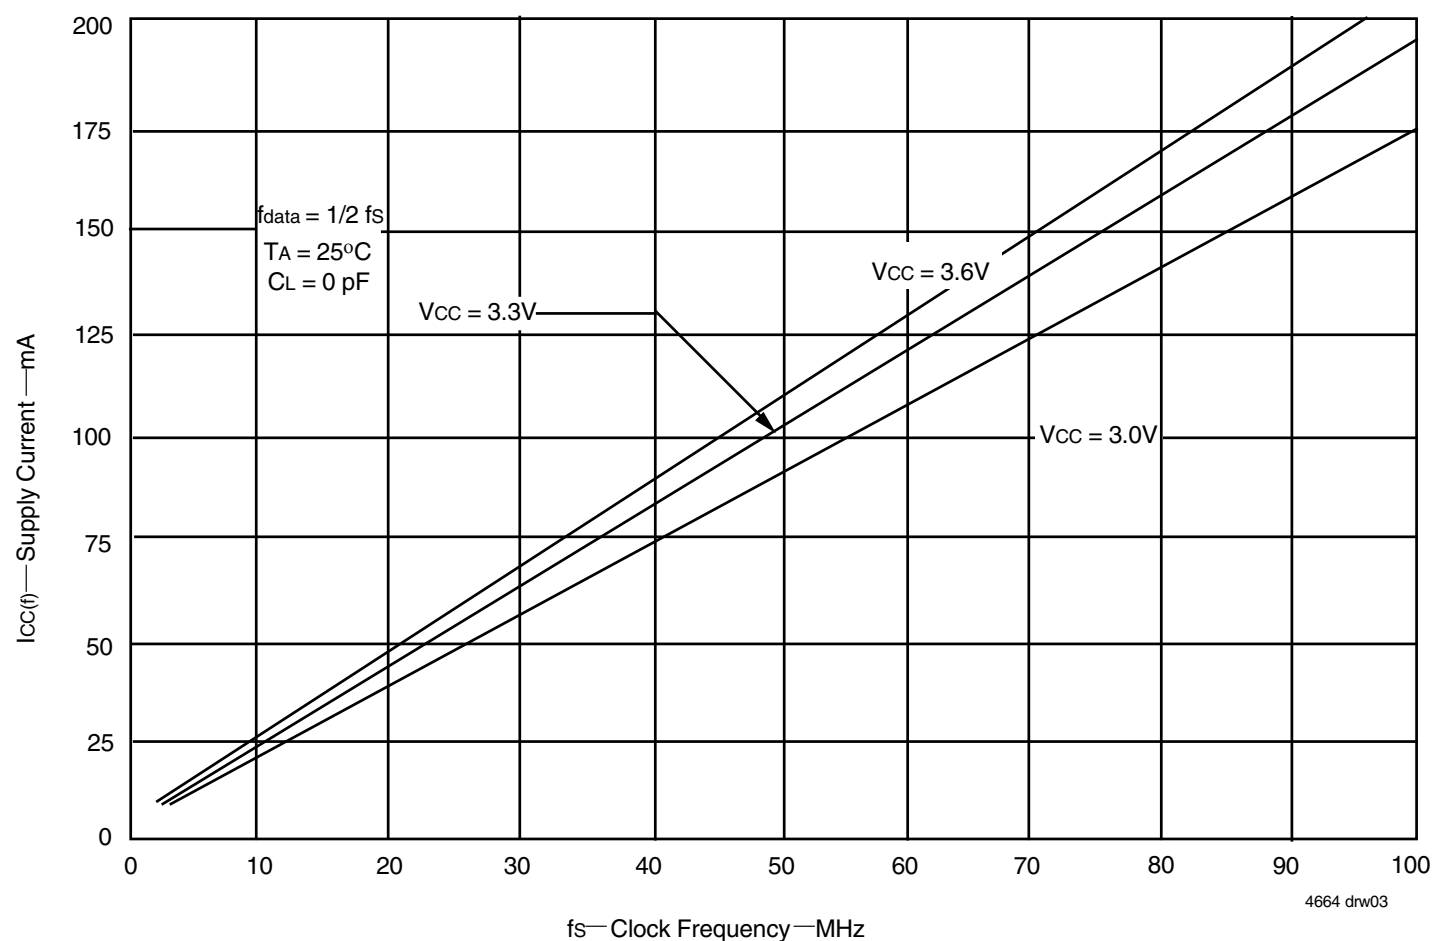

Figure 1. Typical Characteristics: Supply Current (I_{CC}) vs. Clock Frequency (f_s)
- For additional I_{CC} information, see Figure 1, *Typical Characteristics: Supply Current (I_{CC}) vs. Clock Frequency (f_s)*.
The $I_{CC(f)}$ current for the graph in Figure 1 was taken while simultaneously reading and writing a FIFO on the IDT72V3624/72V3644 with CLKA and CLKB set to f_s . All data inputs and data outputs change state during each clock cycle to consume the highest supply current. Data outputs were disconnected to normalize the graph to a zero capacitance load. Once the capacitance load per data-output channel and the number of these device's inputs driven by TTL HIGH levels are known, the power dissipation can be calculated with the equation below.
With $I_{CC(f)}$ taken from Figure 1, the maximum power dissipation (PT) of these FIFOs may be calculated by: